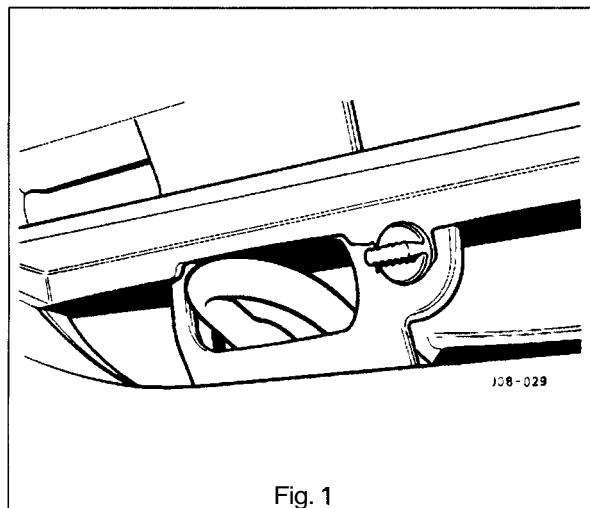

Fig. 1
**Note:** A towing shackle cannot be fastened to the front towing eye until the grille vane has been removed. To do this, remove the (three) quarter-turn fasteners securing the grille vane (Fig. 1), and place the vane safely to one side. The towing shackle may now be secured to the towing eye.